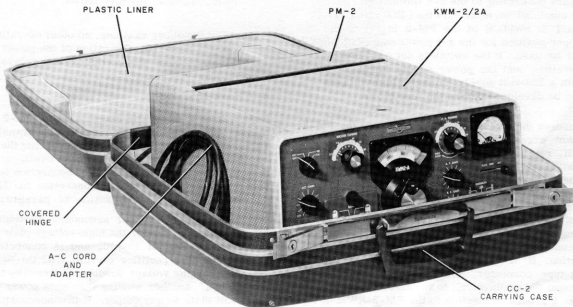

Figure 1. PM-2 and KWM-2/2A Packed in CC-2 Carrying Case
1. General Description. (Refer to figure 1.)